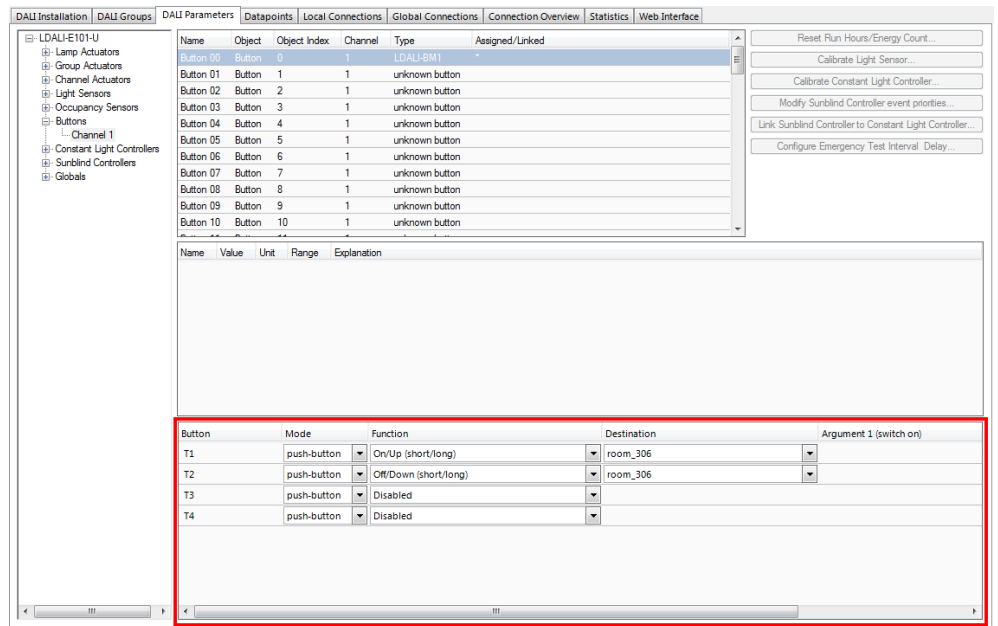

Figure 78: Parameterize DALI button functions.
- Determine which sensors (occupancy & lux) are used as inputs to the constant light controller instance and which groups are controlled in the lower part of the window (2).
- Stay on the **DALI Parameters** tab and select the button object to which you have assigned your DALI button as shown in Figure 78.